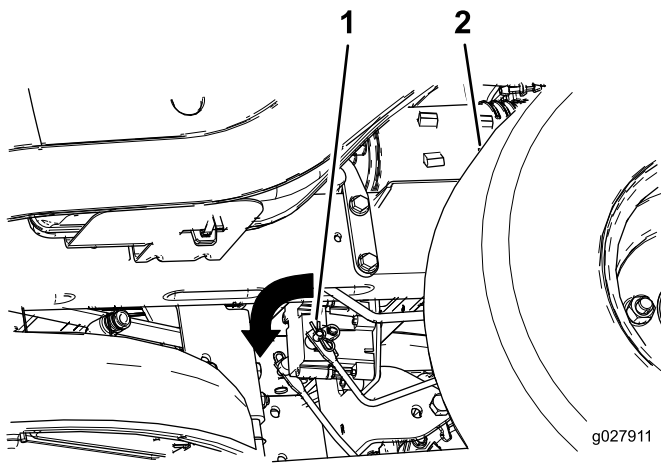

Figure 44
2. Locate the shafts where the brake-link arms are connected on both sides of the electric brake (Figure 44).